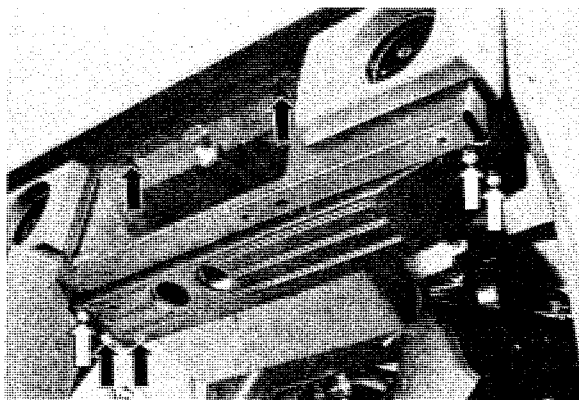

Fig. 8-73. Screw for member and glove box
3. Remove the member under the glove box, also the box and box light (Fig. 8-73).